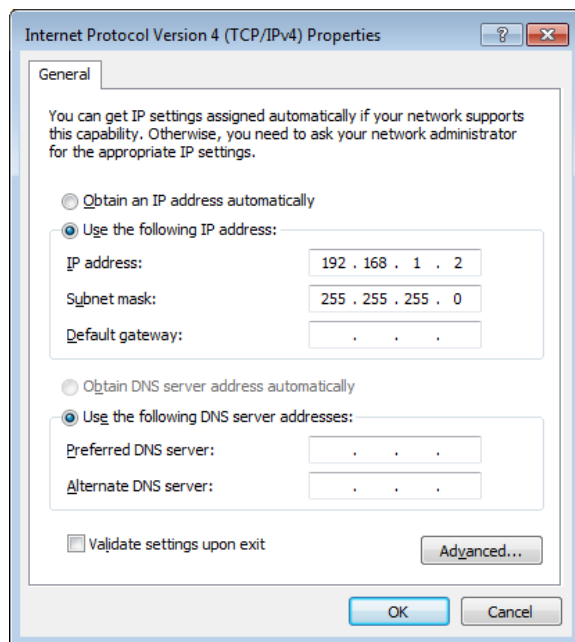

Figure 1.18. Static IP configuration for the host computer
2. Set this network card to static IP in TCP/IPv4 using the address 192.168.1.n, where n=[2..9] and the mask 255.255.255.0, see Figure 1.18 (go to Control Panel → Internet Options → Network and Internet → Network and Sharing Center → Local Area Connection → Properties).